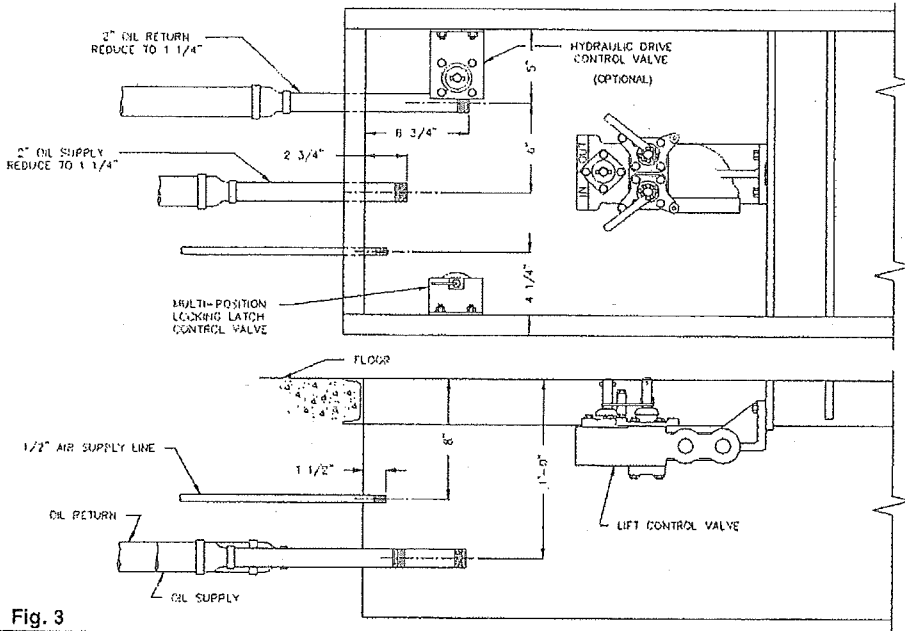

Fig. 3
- Stub-in supply and return lines to dimensions and pipe size shown in Fig. 3 for power unit to control box.